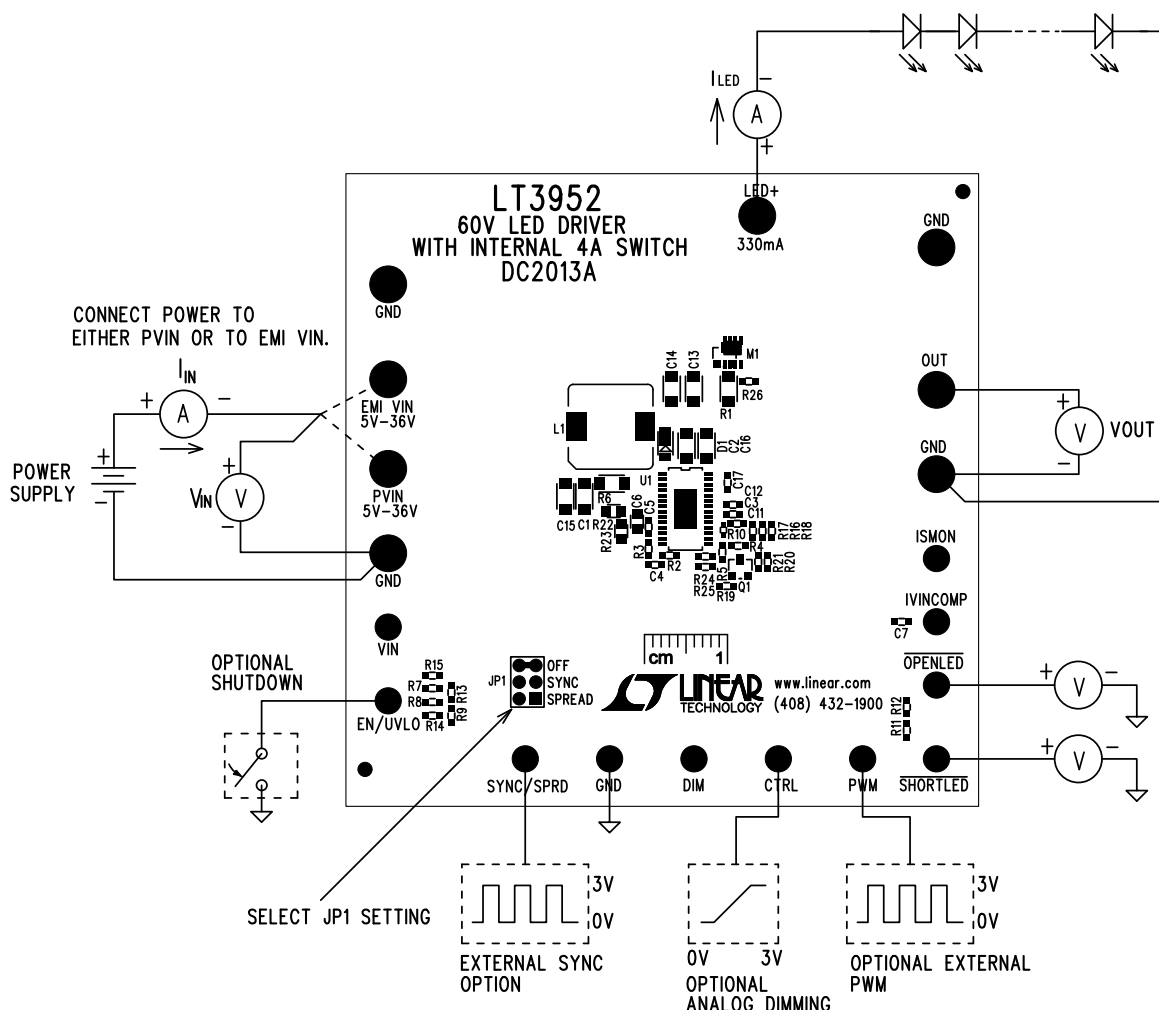

Figure 1. Test Procedure Setup Drawing for DC2013A
1. Connect a string of LEDs that will run with forward voltage less than or equal to 50V (at 330mA), but greater than PV_{IN} , to the LED+ and GND terminals on the PCB as shown in Figure 1.